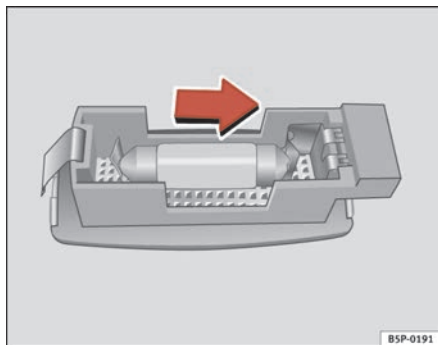

Fig. 197 Removing sunroof light
- Carefully remove the lamp, using the flat side of the screwdriver, as shown in the figure ⇒ fig. 197.
- Remove the bulb, moving it in the direction of the arrow and outwards ⇒ fig. 197. ■